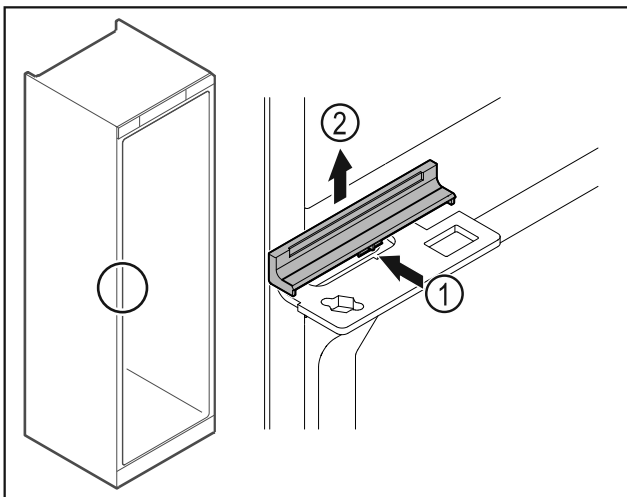

Fig. 48
- Gently press the middle of the cover Fig. 48 (1) and lift it off Fig. 48 (2).